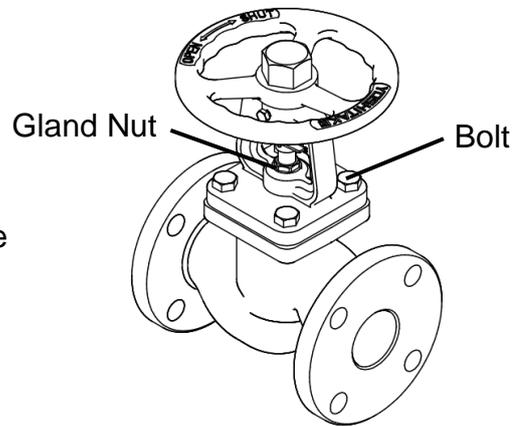

Figure 2
- (1) Store the product indoors in a dust free, low humidity, dry and ventilated environment.
- (2) Installation should be conducted by suitably trained personnel, wearing protective head, eye, hand and foot protection.
- (3) To install the product, check the direction of the product so that the fluid flowing and the arrow marked on the product are in the same direction.
- (4) In order to avoid excessive piping stress in the valve, carefully align the center of the valve and the connected pipe so that they will be in line.
- (5) In case that the product is expected to be frozen, be sure to conduct freezing prevention measures or water draining treatment (after use).
- (6) The valve can be installed in both horizontal and vertical pipes, but the position must be from upright to sideways. Do not install the valve upside down.
- (7) To use the valve for high-temperature fluids (approximately 200-degree C or higher), raise the valve temperature to the operating temperature, and then tighten the bolts shown in Figure 2 additionally. For additional tightening, ensure that the valve is open, and tighten the bolts in a diagonal sequence using a torque wrench. Tightening should be done gradually and evenly, with increasing bolt torque from a low torque to the tightening torque as listed in the table below.